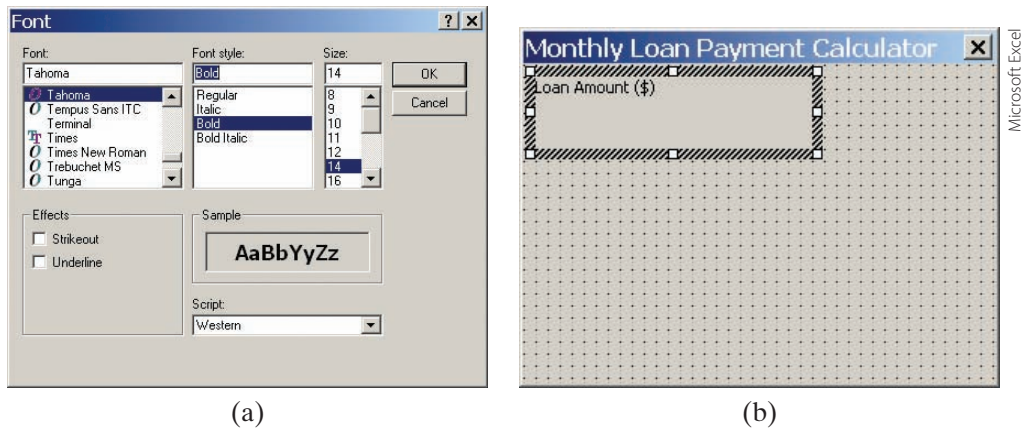

FIGURE 14.63
11. In the Properties window, under **Categorized**, pick **Font** and choose the desired style and size. We will choose Bold and 14, as in Figure 14.63(a).